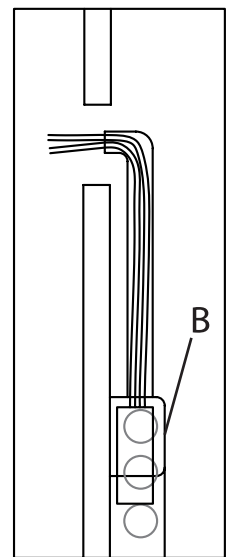

Fig. 2
4. Attach the brackets (G) to the wall with anchors (F) and screws (E) in the locations marked in step 2.
- Note:** Outlet box cover plate (BKP.3831.xx) (C) is sold separately.
- a. Connect the LED driver's (B) live wire to the live outlet box wire.
- c. Insert fixture wires through center hole in cover plate (C).
- g. Install cover plate (C) to wall with countersunk screws (K) and anchors (L).
- Remote Driver:** The driver must be installed in a remote and accessible location in accordance with local electrical code (Fig. 2). Make appropriate connections using wire nuts:
- c. Connect the LED driver's positive (+) output wire (red) to the necessary length of red wire (not included) to reach the fixture (D) location.
- e. Drill a small hole in the wall behind the fixture (D) and pull the low voltage wires through the wall.
6. Attach the fixture (D) to the brackets (G) by using Allen key (J) to tighten set screws (H).
7. Restore power to the outlet box (A) or branch circuit.